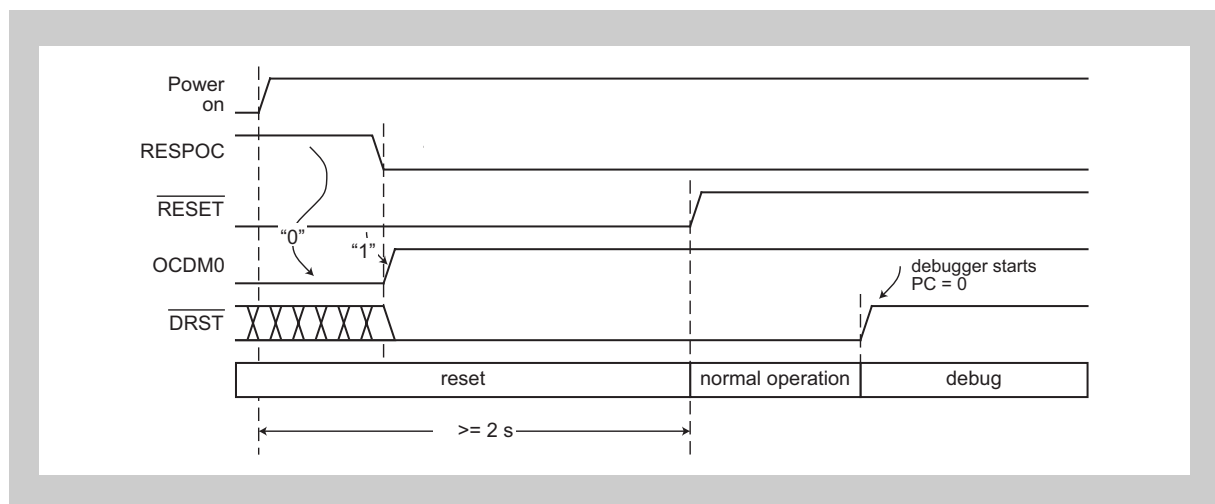

**Figure 23-2** Start with N-Wire activation
*Figure 23-2.* This will cause the program to restart. However the status of the controller might not be the same as immediately after RESPOC, since the internal RAM may have already been initialized, when the external RESET is applied.